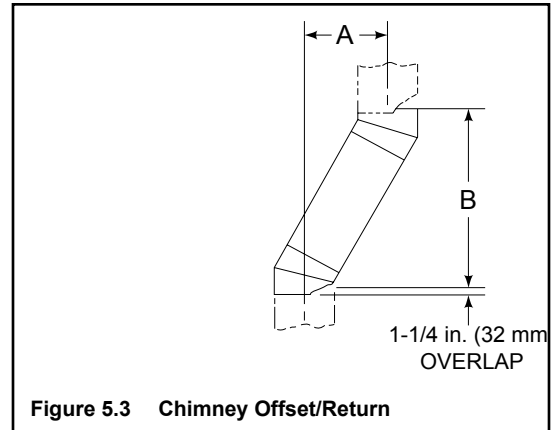

Figure 5.3 Chimney Offset/Return
- Measure how far the chimney needs to be shifted to enable it to avoid the overhead obstacle. See Figure 5.3. Use dimension “A” to determine chimney section required to achieve the needed shift.
➔ **Example:** Your “A” dimension from Figure 5.3 is 14 1/2 in. (368 mm). Using Table 5.2 the dimension closest to, but not less than 14- 1/2 in. (368 mm) is 14 5/8 in. (371 mm) using a 30° offset/return. It is then determined from the table that you would need 33 in. (838 mm) (Dimension “B”) between the offset and return. The chimney components that best fit your application are two SL412s.